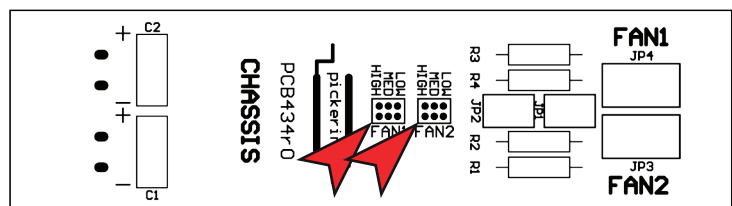

Figure 3.4 - Legend on the fan controller board with the speed setting links highlighted
6. Referring to the legend on the fan controller boards, set the speed of each fan by removing the link from its current position and refitting it to the required setting (each board can control two fans). The legend on the controller board is shown in Figure 3.4.